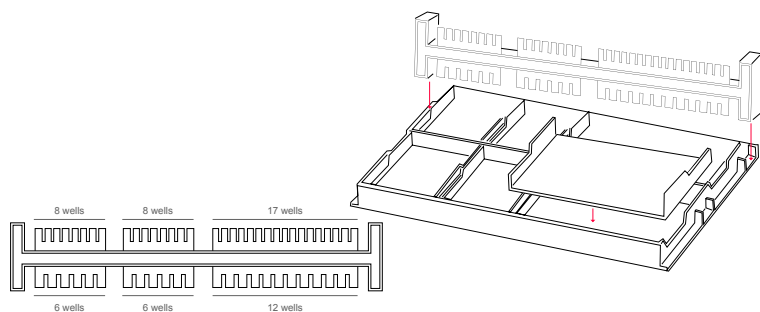

Figure 1: RunOne Casting System
- Place the agarose gel trays in the casting stand (Figure 1). Allow the agarose gel solution to cool to 65 - 70°C before pouring into the gel trays. This precaution will prevent the gel trays from warping in a long run.